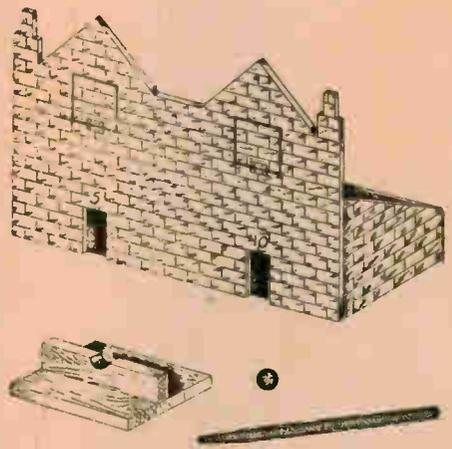
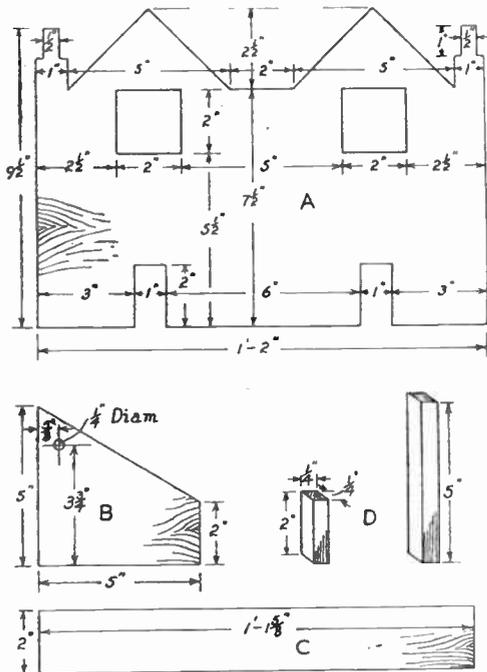

Fig. 1 - The completed alley
Fig. 3—Details of front, back and sides
THE marble alley shown in Fig. 1 is quite an interesting novelty and is well worth making. The article is simple to make, and the construction is such that it can be made quickly since all jointing is done with glue.
Commence making the article by cutting the front indicated in (A) Fig. 3, and a piece of sound $\frac{3}{8}$ in. three-ply is used. Take care to cut the door openings in the position marked, and also the two window openings. The two window shutters are cut from plywood, and these are cut to just fit the openings and are fixed in position with a small hinge as shown in Fig. 1.
Two sides are required and details of these are given in (B) Fig. 3. Cut the sides from $\frac{3}{8}$ in. ply to the size and shape indicated, and take care to drill the $\frac{1}{4}$ in. hole in the position given. A piece of $\frac{3}{8}$ in. ply is cut to size indicated in (C) Fig. 3, which forms the back of the alley.
these are shown in (D) Fig. 3. Two pieces of $\frac{1}{2}$ in. by $\frac{1}{2}$ in. stripwood are required 5ins. long and two 2ins. long as indicated.